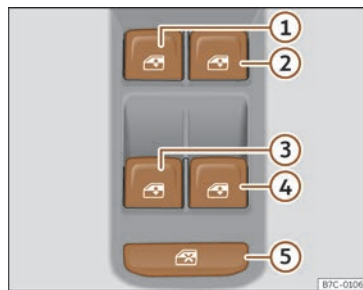

Fig. 89 Detail of the driver's door: window controls.
The safety control >>> **Fig. 89** ⑤ on the driver door can be used to disable the electric window buttons on the rear doors.